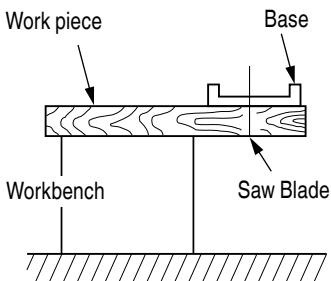

Fig. 6
- Prepare a wooden workbench (Fig. 6)